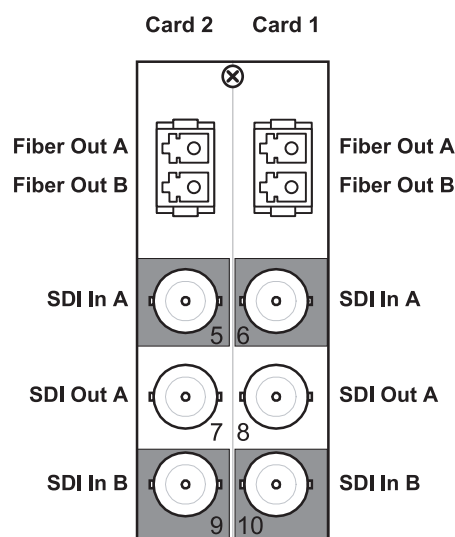

Figure 2.5 Cable Connections for the **8320AR-045** Rear Module
- **8320AR-045** Split Rear Module (R2S-6604) — Each card occupies one slot and provides two optical outputs, two SDI inputs, and one SDI output. Refer to **Figure 2.5**.